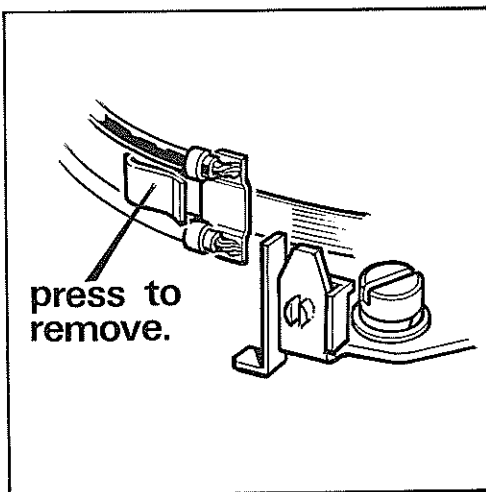

Figure 44 Correct replacement of points
- 2 Press the terminal end of the moving-contact spring towards the cam. (**Figure 44**). This will disengage the spring from the insulating-piece attached to the terminal post, the capacitor lead and low tension fly-lead can then be detached from the folded end of the spring. Remove the slotted screw securing the fixed-contact and lift the contact-breaker from the base plate.
outwards, otherwise the lower clip may foul the fixed contact plate and short-circuit the contact breaker. (**Figure 44**).